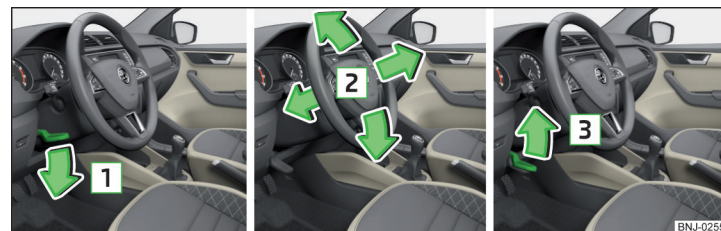

Fig. 3 Adjusting the steering wheel position
- Swing the safety lever under the steering wheel in the direction of arrow 1 » Fig. 3.